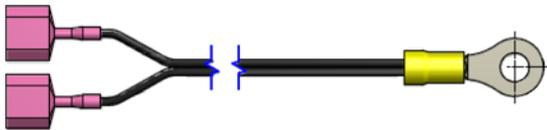

Figure 8 - Mixed Air Sensor
1. Remove the mixed air sensor from the economizer parts bag. The sensor has a small ring terminal. See Fig. 8.